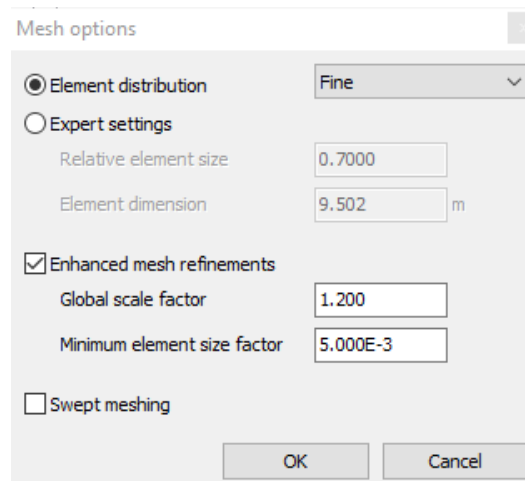

Figure 7-3: Modification of the Global coarseness
- 2 Select the **Fine** option from the **Element distribution** drop-down (See Figure 7-3 \(p. 136\)):